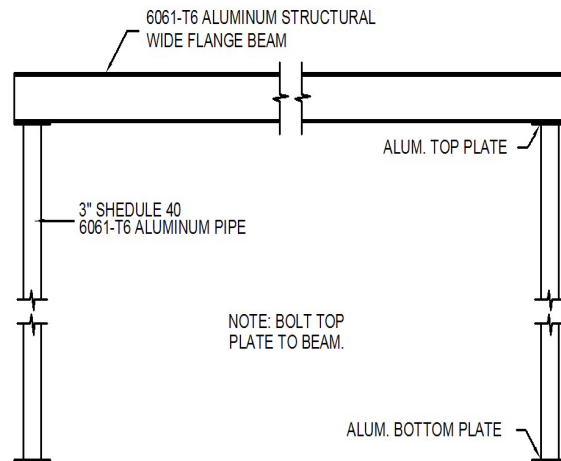

FIGURE 12 - INTERIOR BEAM & EXPOSED POST
2. Assemble the beams and posts per Figures 12, 13 and 14.